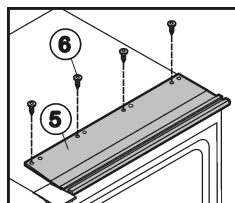

Fig. 31
- Screw on the upper installation contour Fig. 31 (5) by means of four screws Fig. 31 (6) inserted through the pre-cut holes in the profile and appliance.